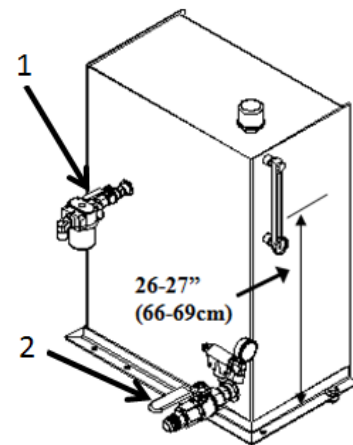

Figure 4-5: Hydraulic Oil Level
4.2.2 Hydraulic Tank Oil Level and Valve Position: Refer to section 11.0, Lubrication and Maintenance, for the service schedule, oil type, and filter replacement info. "Full Cold Line" on the decal should be at the dimension shown in Figure 4-5.
CAUTION: Valves (1 & 2) must be open prior to engaging the PTO or system failure will occur. Valves in Figure 4-5 are shown in the open position.